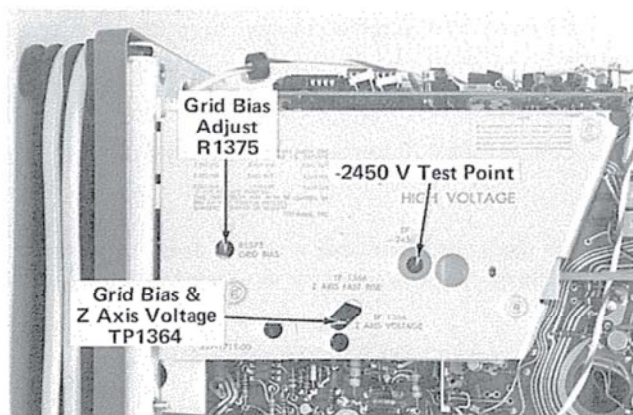

Fig. 5-3. Location of high-voltage and Grid Bias test points and adjustments.
a. Connect the DC Voltmeter between the -2450-volt test point and ground (positive meter lead to ground). See Fig. 5-3.